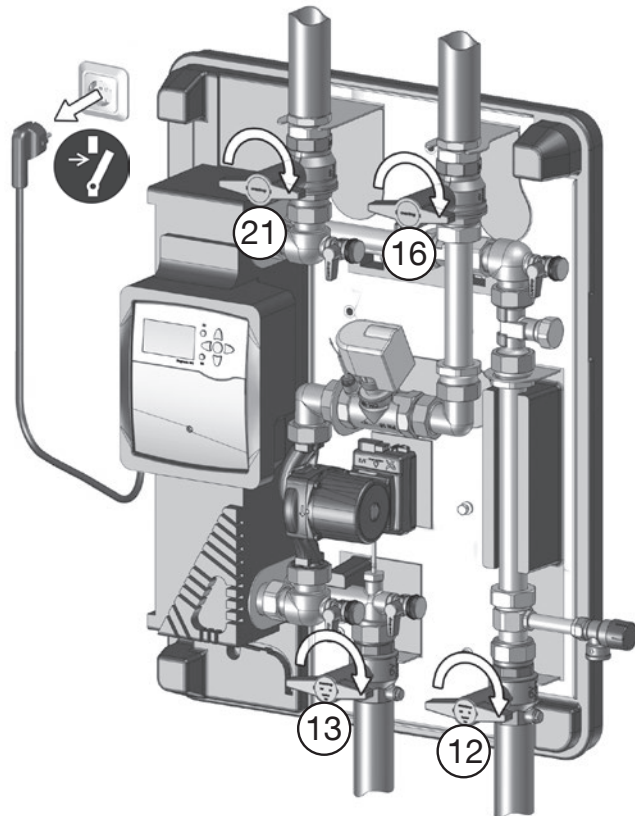

Fig. 5.13: Disconnect the controller from the power supply and close all isolating ball valves
2. **Close the isolating ball valves (12 and 13) (potable water circuit) and (16 and 21) (storage cylinder circuit) (Fig. 5.13).**